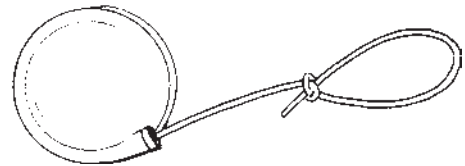
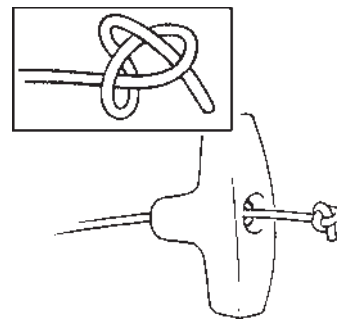

Figure 4.2 Slip knot
Figure 4.9 Installing the handle
Pull 8 to 10 inches of starter cord from the recoil housing and tie a slip knot (Figure 4.2) where the cord enters the housing.
**STEP 3.** Use a slip knot (Figure 4.2) to prevent the starter cord from rewinding, then thread on the handle and related components in the reverse order of removal. Place a stopper-knot at the end of the cord (Figure 4.9), remove the slip knot at the recoil housing, then allow the cord to rewind.